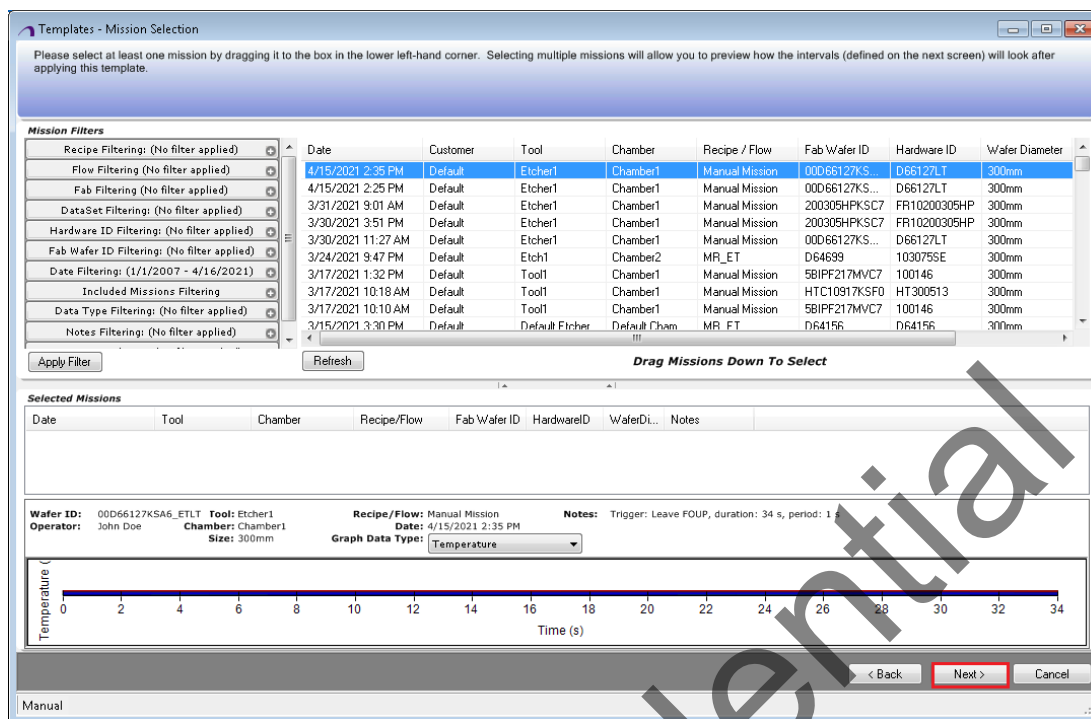

Figure 6-2 Mission Selection Window
2. Click **Add New** option to start creating a template, -or- click the **Copy Selected Template** option to copy an existing template. The **Mission Selection** window opens, as shown in Figure 6-2. It allows a choice of reference mission, which should be a good representative of mission data collected using the recipe of interest.